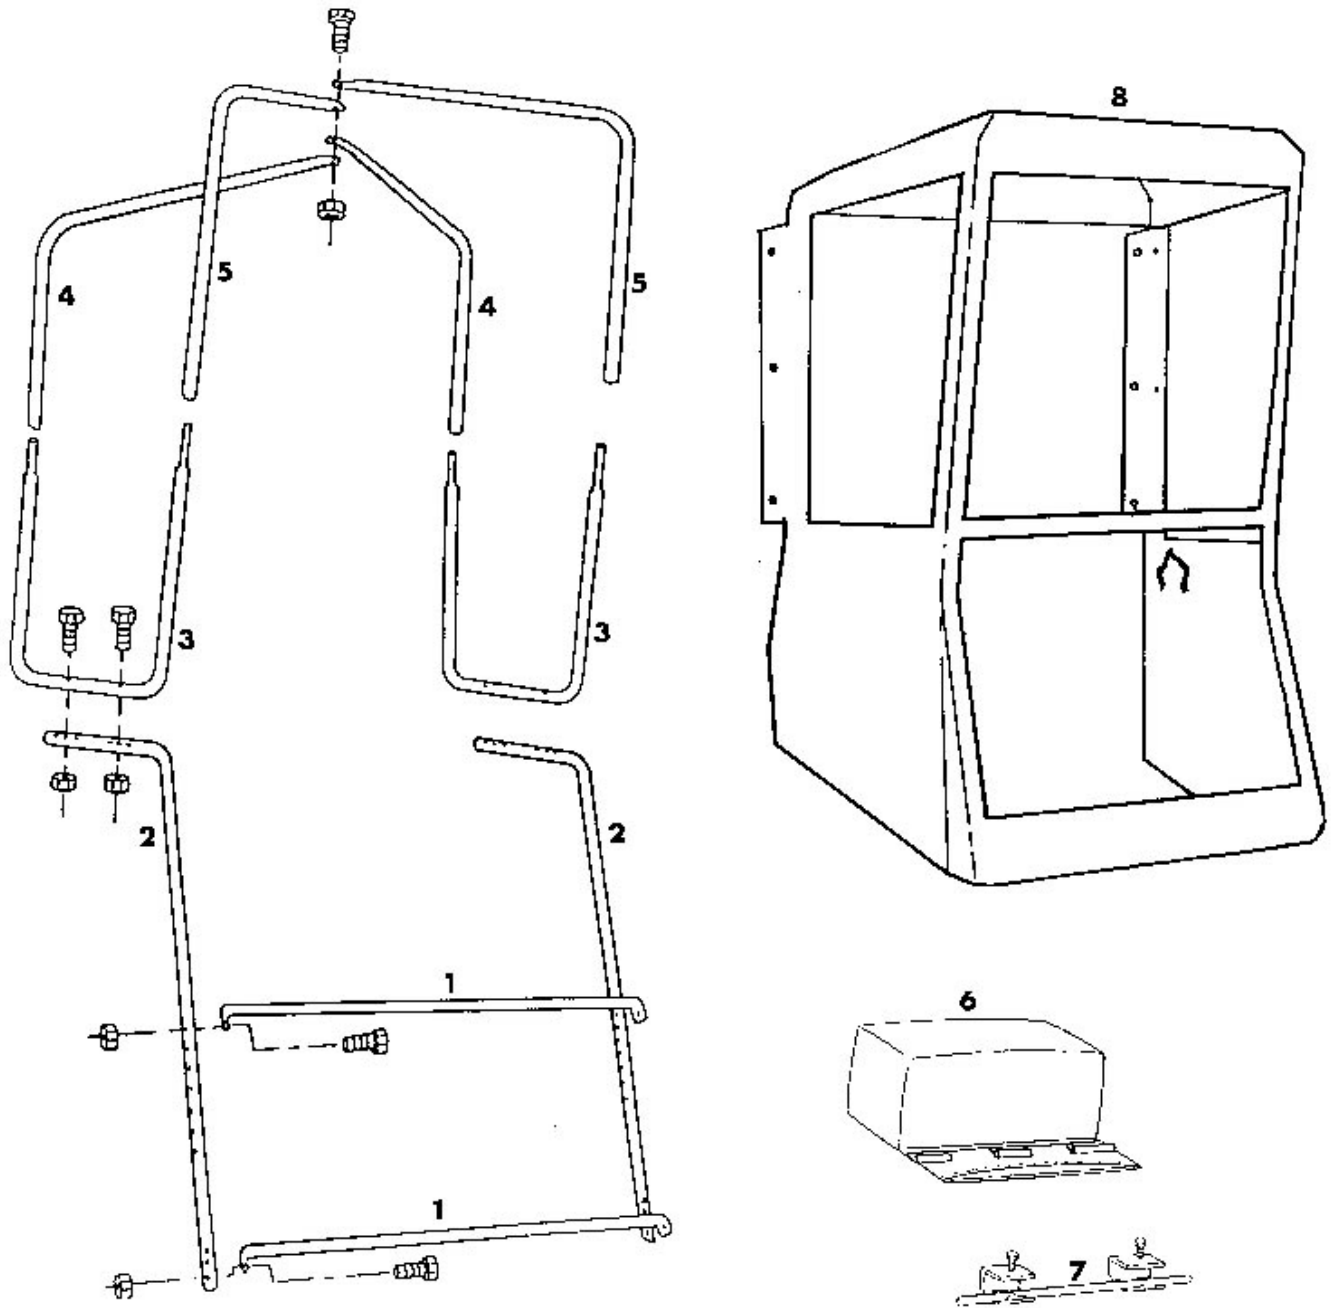

FIGURE 1
STEP 9: SEE FIGURE 1:
STEP 10; SEE FIGURE 1: